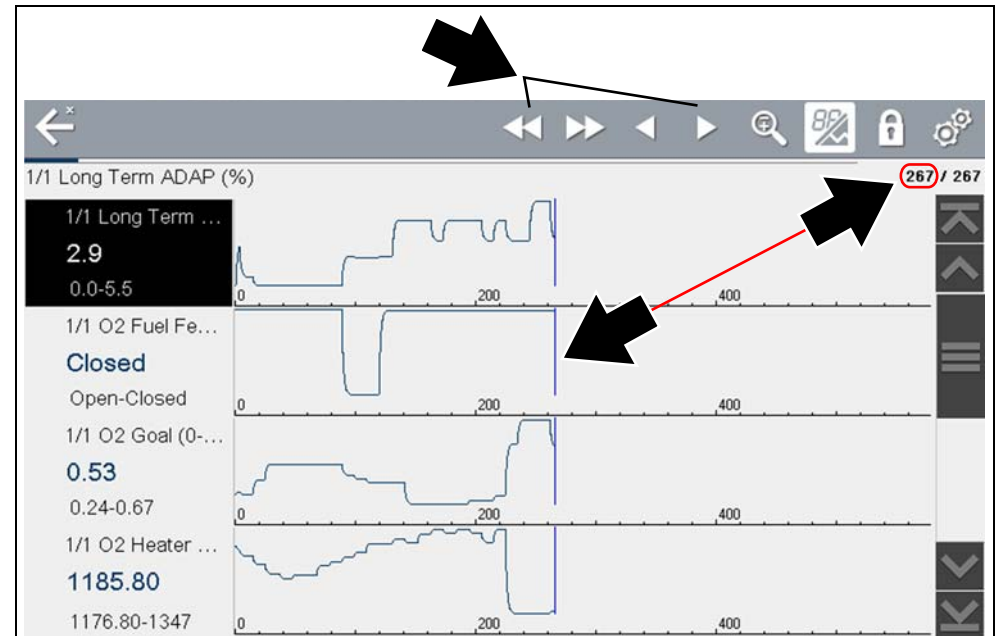

Figure 6-16
3. In graph view, use the control icons to move through the data (Figure 6-16).
The blue (vertical cursor) (Figure 6-16) indicates your position in the data and is denoted by the current position value (Figure 6-16) in the counter display. The cursor displays in all PIDs.
Pressing the Save icon more than once in the same data collection session will create multiple (.SCM) files. Each file will contain gray (vertical cursors) (Figure 6-16) indicating where the data was paused.